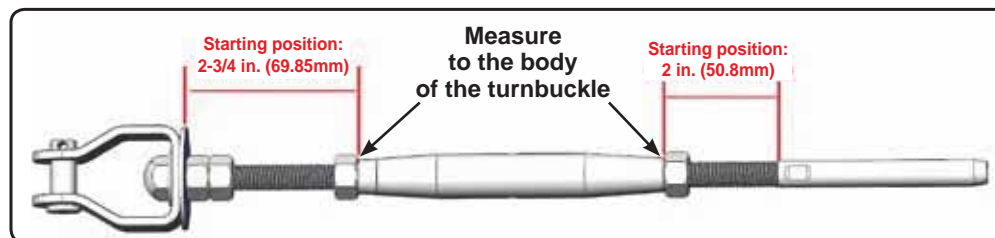

Fig. 13c
3. Once Swage Turnbuckle is securely installed, set turnbuckle to the measurements specified in Fig. 13c. This will allow for tightening and tensioning of the system later.